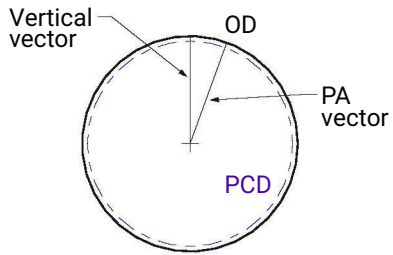

Fig.1
Perhaps with the Editor's indulgence a few simple notes on how I draw these might be welcome, as this is not something I have seen in article form, but I am always ready to be corrected. The first thing to do is to draw the PCD of the new gear, **fig. 1**. Which is the same as the 39-tooth gear, using the "Circle" command. Which in this instance because I chose 32 DP for my gears is 1.2188" or as I choose to work in metric units this becomes 30.95mm. This circle is drawn as well, as a circle on the same centre for the outside diameter, (OD), which again is the same as the 39-tooth gear. After conversion this should be 32.53mm but I ignored the 0.03 as it is insignificant, and it makes for a simple OD of 32.5mm. A vertical line or vector from the circle centre to the OD is drawn next, (I usually work with the Ortho "on", this ensures automatic verticals and horizontals). A further vector is needed in the top right quadrant, (or approximately where 1 o'clock should be). This can be easily achieved using the "rotate" command on the drawing package and rotating our already drawn vector. The angle to move through is the pressure angle chosen, (PA). Which in this instance is 20 degrees and this is a minus quantity otherwise the vector will rotate anti-clockwise, instead of clockwise. Next draw another vertical vector to the OD from the circle centre to replace the one just moved.